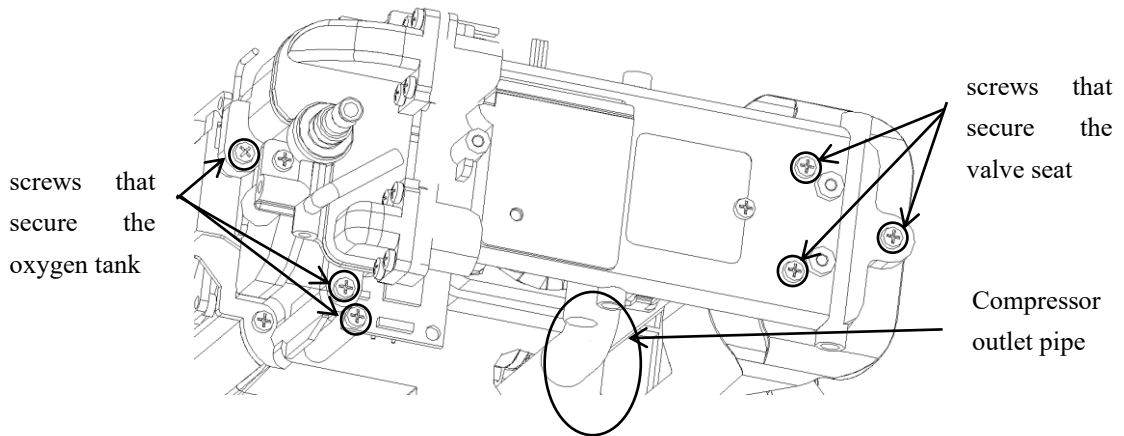

Figure 17 Replace the valve seat and oxygen tank
1. Unplug the compressor outlet pipe. (Refer to Figure 17)
2. Use a screwdriver to unscrew the three screws that secure the oxygen storage tank assembly and the three screws that secure the valve seat assembly, and remove the oxygen storage tank assembly and valve seat assembly. (Refer to Figure 17)